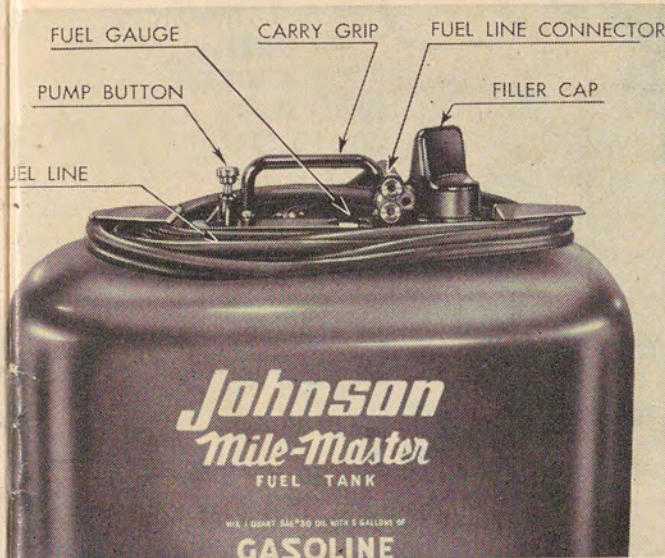
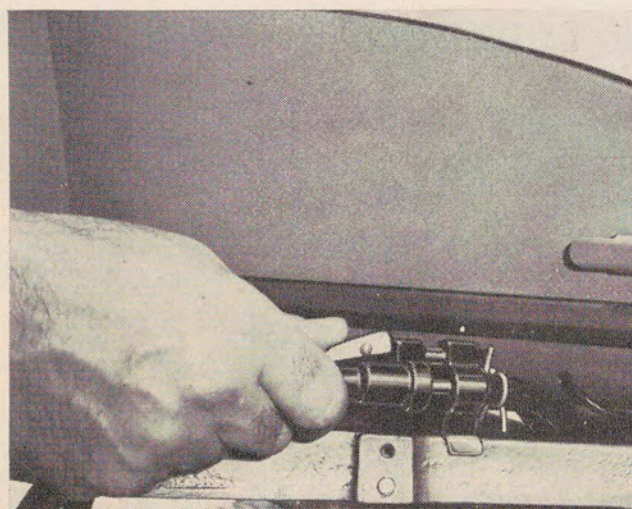

Figure 1
Figure 7
The Mile-Master Tank (Figure 1) should be placed in the boat at a convenient position near the operator. The fuel line may be strung out, allowing ample room for steering as the motor is pivoted from side to side. The fuel line connector can then readily be attached to the coupling on the motor provided for this purpose—simply compress small lever on the fitting and slide into position as shown (Figure 7).
1. Attach fuel line connector from Mile-Master tank to motor (Figure 7).
- Attach fuel line connector from Mile-Master tank to motor (Figure 7).